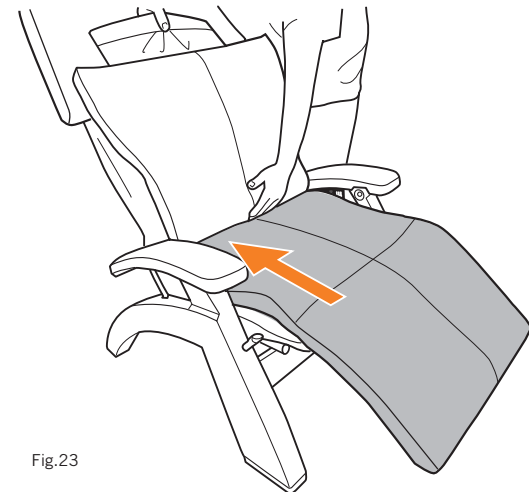

Fig.23
4. Lift up on the body pad to detach the seat hook and loop fasteners, pull it firmly up toward the seat, then press firmly down on the seat and leg area to secure it (Fig.23).